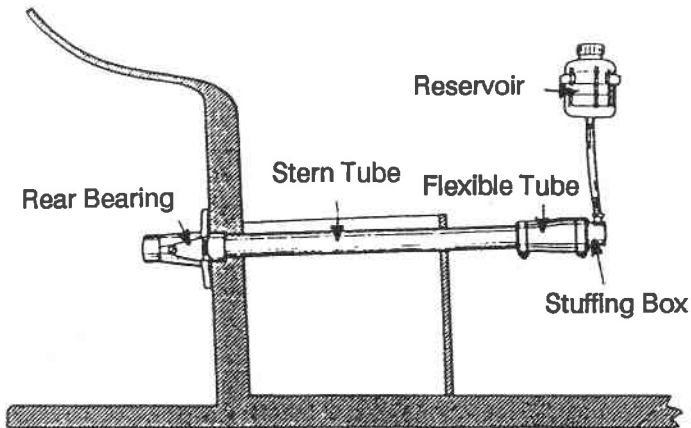

Fig. 1 - Bukh System
- 1 The reservoir illustrated in Fig. 1 is an optional extra. It should be mounted approximately 0.25m above the water line and filled with outboard gear oil.**
- 2 Every 3 seasons, renew the 3 ring seals in the stuffing box (A).**